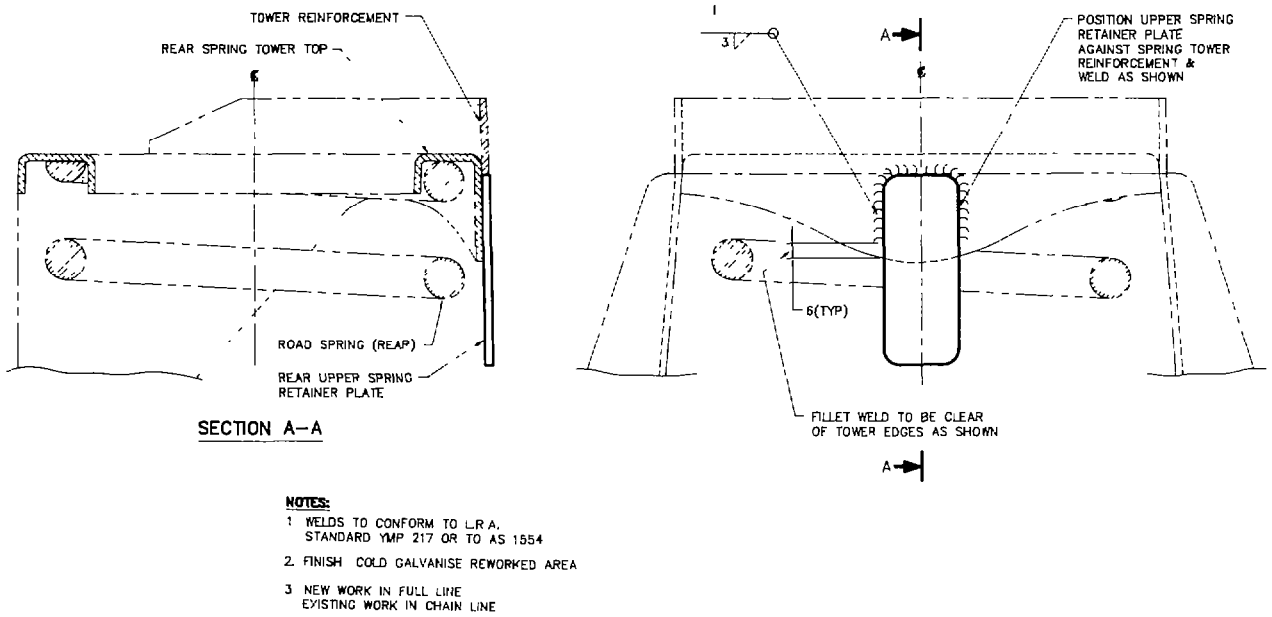

Figure 2 - Rear Upper Spring Seat Retainer
- a. Position the rear upper spring seat retainers (item 2 from Table 3) as shown in Figure 2, mark the outline of the bracket and remove all traces of galvanising from the marked area and for 2 cm surrounding.
- b. Weld the upper spring seat retainers in place as shown in Figure 2.
c. Paint the exposed weld area with cold gal (item 2 from Table 1).
d. Remove the existing rear lower spring seat retainers and fit new retainers (item 3 from Table 3) ensuring that the retainer clamps on the smallest part of the lower coil.